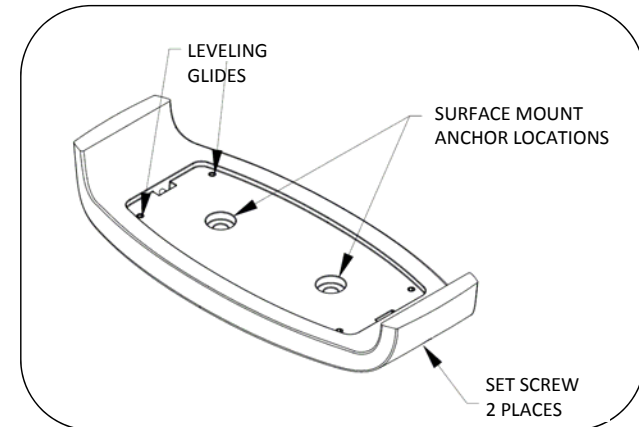

Fig. 2 – surface mount base details
2. Remove the cover plate. Using the 1/8" hex key, back out the two set screws, shown in Fig. 2, to disengage the cover plate. Set aside, retaining the set screws.